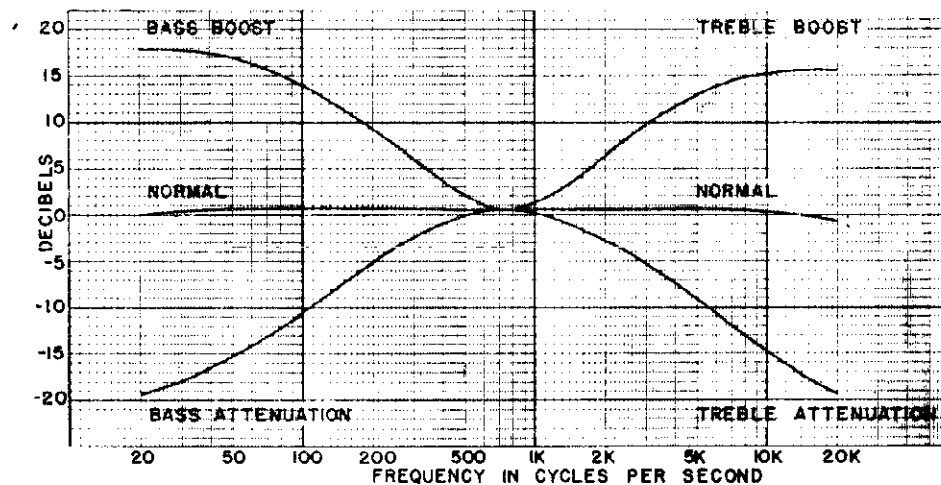

Fig. 2. Audio Characteristic
**AUDIO SYSTEM** - A cathode-follower Amplifier Output jack, furnishing up to 2 volts at less than 1/2% distortion from 20 to 20,000 cps., (refer to Figure 2) and the associated shielded audio cable have been provided to connect the C10 into new or existing audio systems. Any audio amplifier, such as the Craftsman 2 or 500 A amplifier,